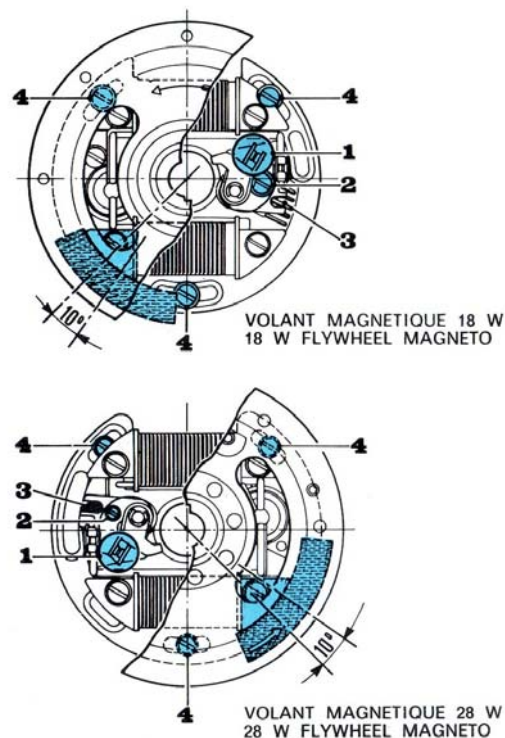
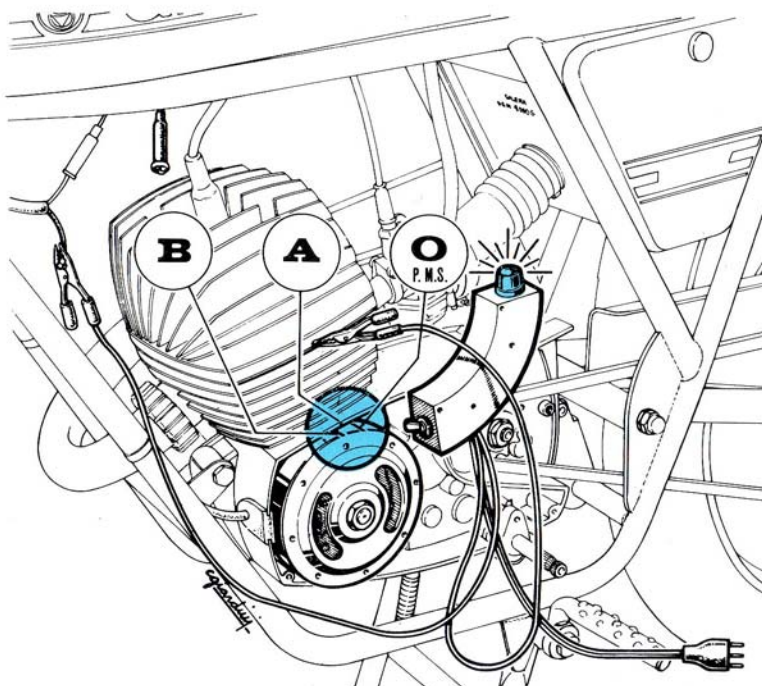

Fig. 30
Fig. 31
For proper functioning of the flywheel magneto it is necessary that clearance between contacts « 1 » (see fig. 30) is set at $0.40 (\pm 0.05 \text{ mm})$. To check use a feeler gauge through the slots on the rotor after rotating same to T.D.C. position (« 0 » marking on rotor corresponding to reference mark « A » on crankcase, (see fig. 31). To set the clearance, loosen clamping screw « 2 » (see fig. 30) of the breaker, move notch « 3 » with a screw-driver. Then tighten screw again. Clean contacts with fine abrasive cloth and petrol.
Set the contact breaker gap to $0.40 \text{ mm } (\pm 0.05 \text{ mm})$. Point separation must occur $10^\circ (\pm 2^\circ)$ after a magnetic split (which occurs exactly when the centre line of a pole shoe is aligned with that of a coil (see fig. 30). For further check of the 28 W flywheels, if a test bench available, measure spark intensity with a test box shunted to the ends of a third point spark gap. The intensity must be over 2 micro-siemens between 500 r.p.m. and 6000 r.p.m. with lights on or off. If intensity is lower than above, replace the high-tension coil and recheck.
To check ignition timing with T.0027533 tool (cf fig. 31) proceed as follows:
- 1 - Remove rotor (see fig. on page 5-6) and loosen screws « 4 » (see fig. 30) clamping the baseplate to the crankcase.